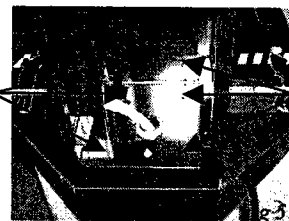

Fig 5.
7. Secure the Coin Tower to the Floor using the 6x M8 Hex head bolts and M8 washers (provided) at location shown in fig 5.